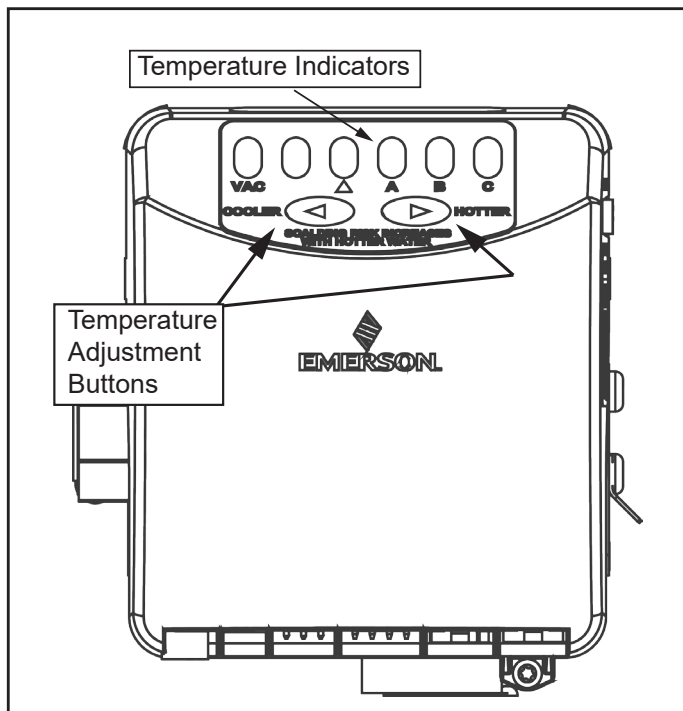

Figure 29. Adjusting the Thermostat
Mixing valves are available at plumbing supply or hardware stores. See *Figure 2* (page 8). Follow manufacturer's instructions for installation of the valves. Before changing the factory setting on the thermostat, in this manual, see *Figure 29*.
1. "Wake Up" the temperature indicators by holding down both "COOLER" and "HOTTER" temperature adjustment buttons at the same time for one second. See *Figure 29*. One or two of the temperature indicators will light up. These indicators will only remain on for 30 seconds if no further buttons are pressed. After 30 seconds the control will go back to "Sleep" mode.